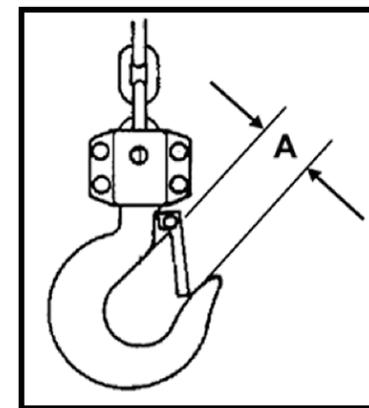

FIG 13
- The throat opening has enlarged. See (FIG 13) for the maximum allowable limits for the throat opening.
• Replace the hook when “A” in (FIG 13) is wider than the “Throat Opening Limit” shown in the accompanying table.